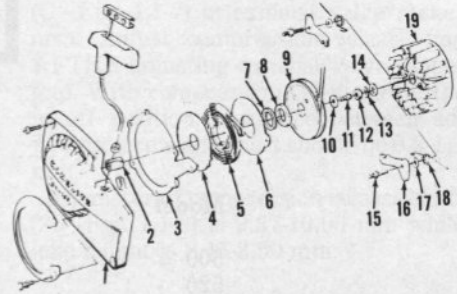

Fig. HL44-8—Exploded view of rewind starter.
REWIND STARTER. To disassemble starter, refer to exploded view in Fig. HL44-8 and proceed as follows: Pull starter rope out fully, hold pulley (7) and pry rope knot from pulley. Let pulley rewind slowly. Hold pulley while removing screw (11) and washer (10). Turn pulley counterclockwise until disengaged from spring, then carefully lift pulley off starter post. Turn open side of housing
Install ring (3) and shield (4) in starter housing (1). Install new spring with loop in outer end over pin in blower housing and be sure spring is coiled in direction shown in Fig. HL44-8. Install shield (6) and pulley (9), turning pulley clockwise until it engages spring and secure with washer and screw. Insert new rope through handle and hole in blower housing. Knot both ends of the rope and harden the knots with cement. Turn pulley clockwise approximately four turns and slide knot in rope into slot and keyhole in pulley. Let starter pulley rewind slowly.